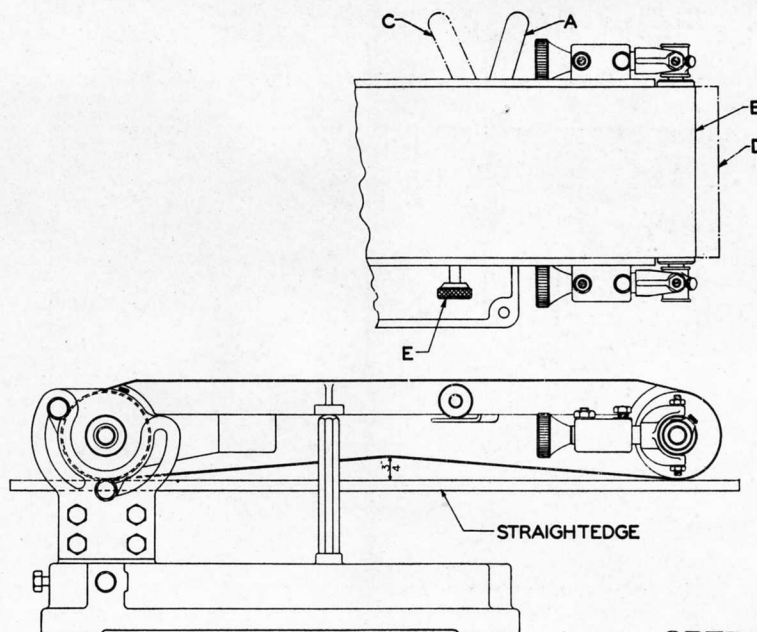

Fig. 2
When replacing the sanding belt loosen the lock stud (E in Fig. 2) and move the tensioner lever to position (A). This will pull the idler pulley in to position (B). Slip on the belt and move lever to position (C). This will force idler pulley to position (D) thus tightening the belt. The belt should be set at just enough tension to give the belt the slack shown in the lower half of Fig. 2.